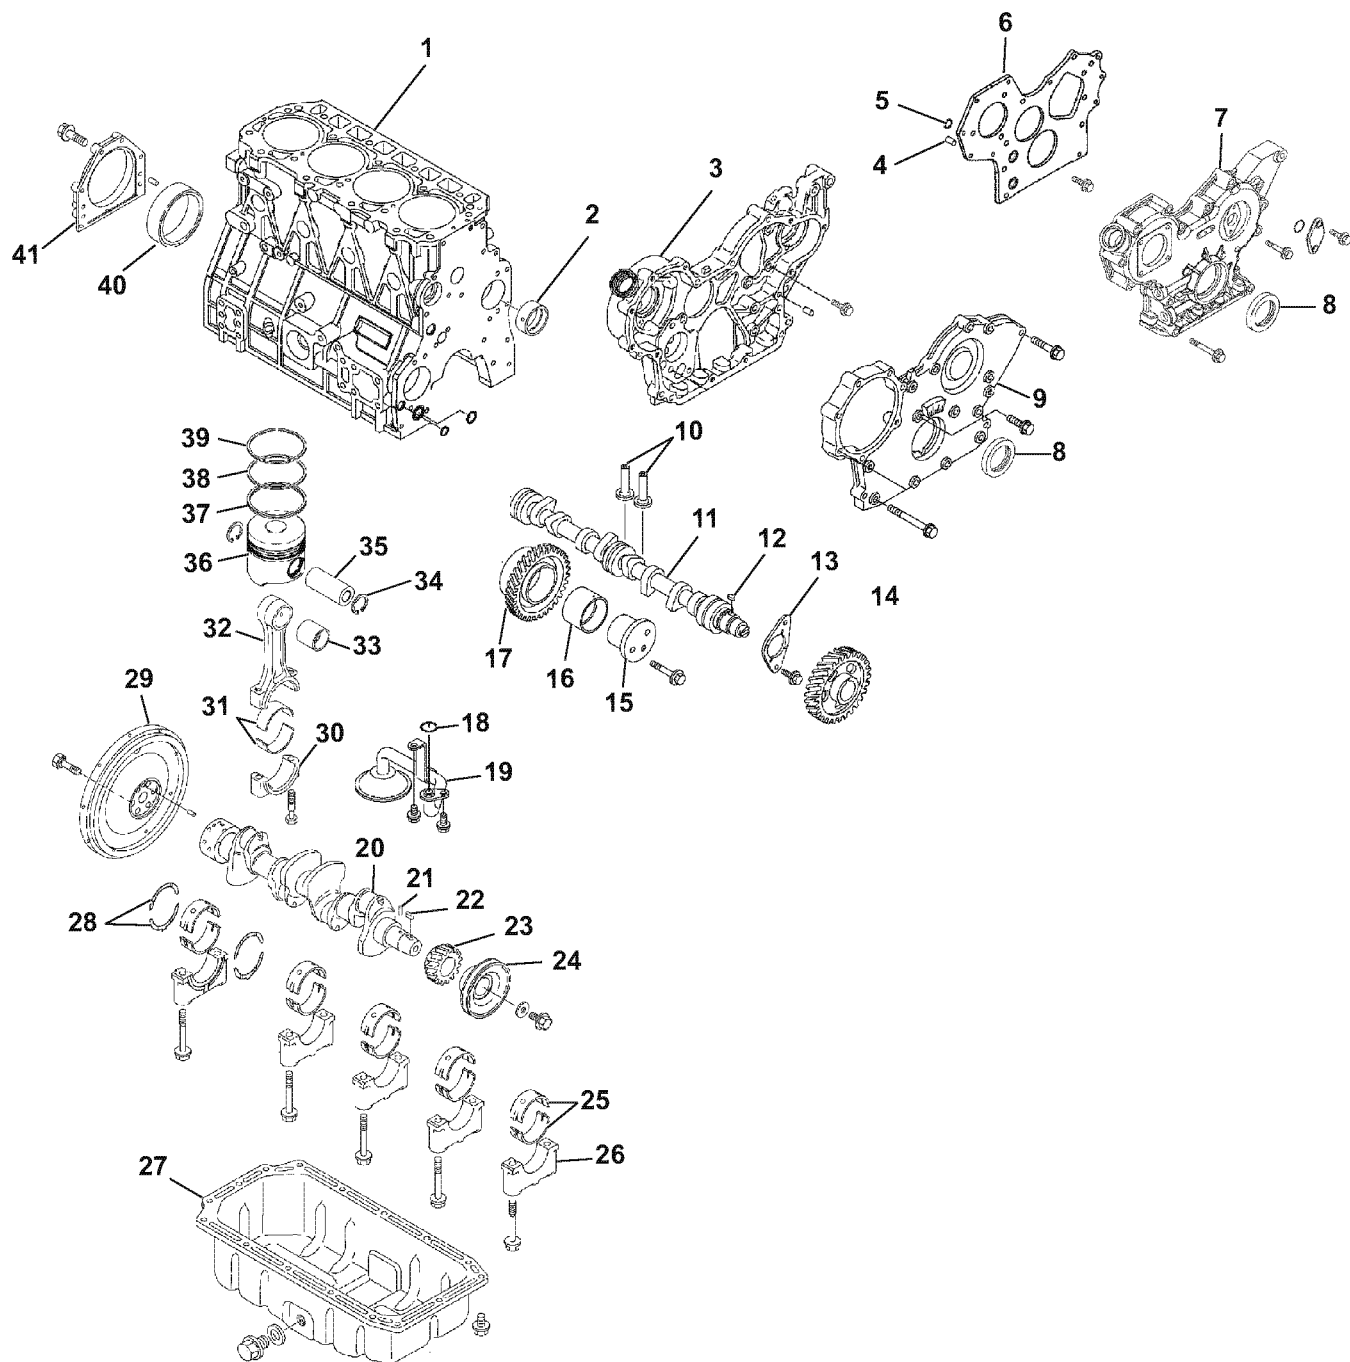

**Figure 6-86**
10. Loosen the valve adjusting screw lock nut (**Figure 6-86, (5)**) and valve adjusting screw (**Figure 6-86, (4)**) on the rocker arm (**Figure 6-86, (3)**) and check the clearance gap (**Figure 6-86, (2)**) for evidence of dirt or wear.
11. Adjust the valve clearance (**Figure 6-86, (2)**) by turning the adjusting screw (**Figure 6-86, (4)**) until there is a slight "drag" on the feeler gauge when sliding it between the rocker arm and the valve bridge.
12. Hold the adjusting screw (**Figure 6-86, (4)**) while tightening the valve adjusting screw lock nut (**Figure 6-86, (5)**). Recheck the clearance.